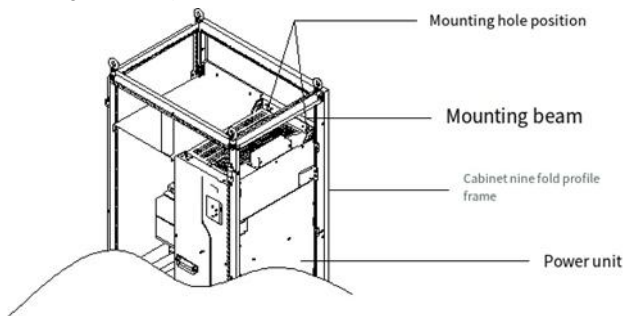

Figure 4-7 3D view of F580 55 to 500kW models in cabinet
- b. When F580 55~500kW models are loaded into the cabinet with nine-fold profile 600mm deep, the mounting beam must be bent inwards (as shown in the Figure 4-7), making use of the space of the